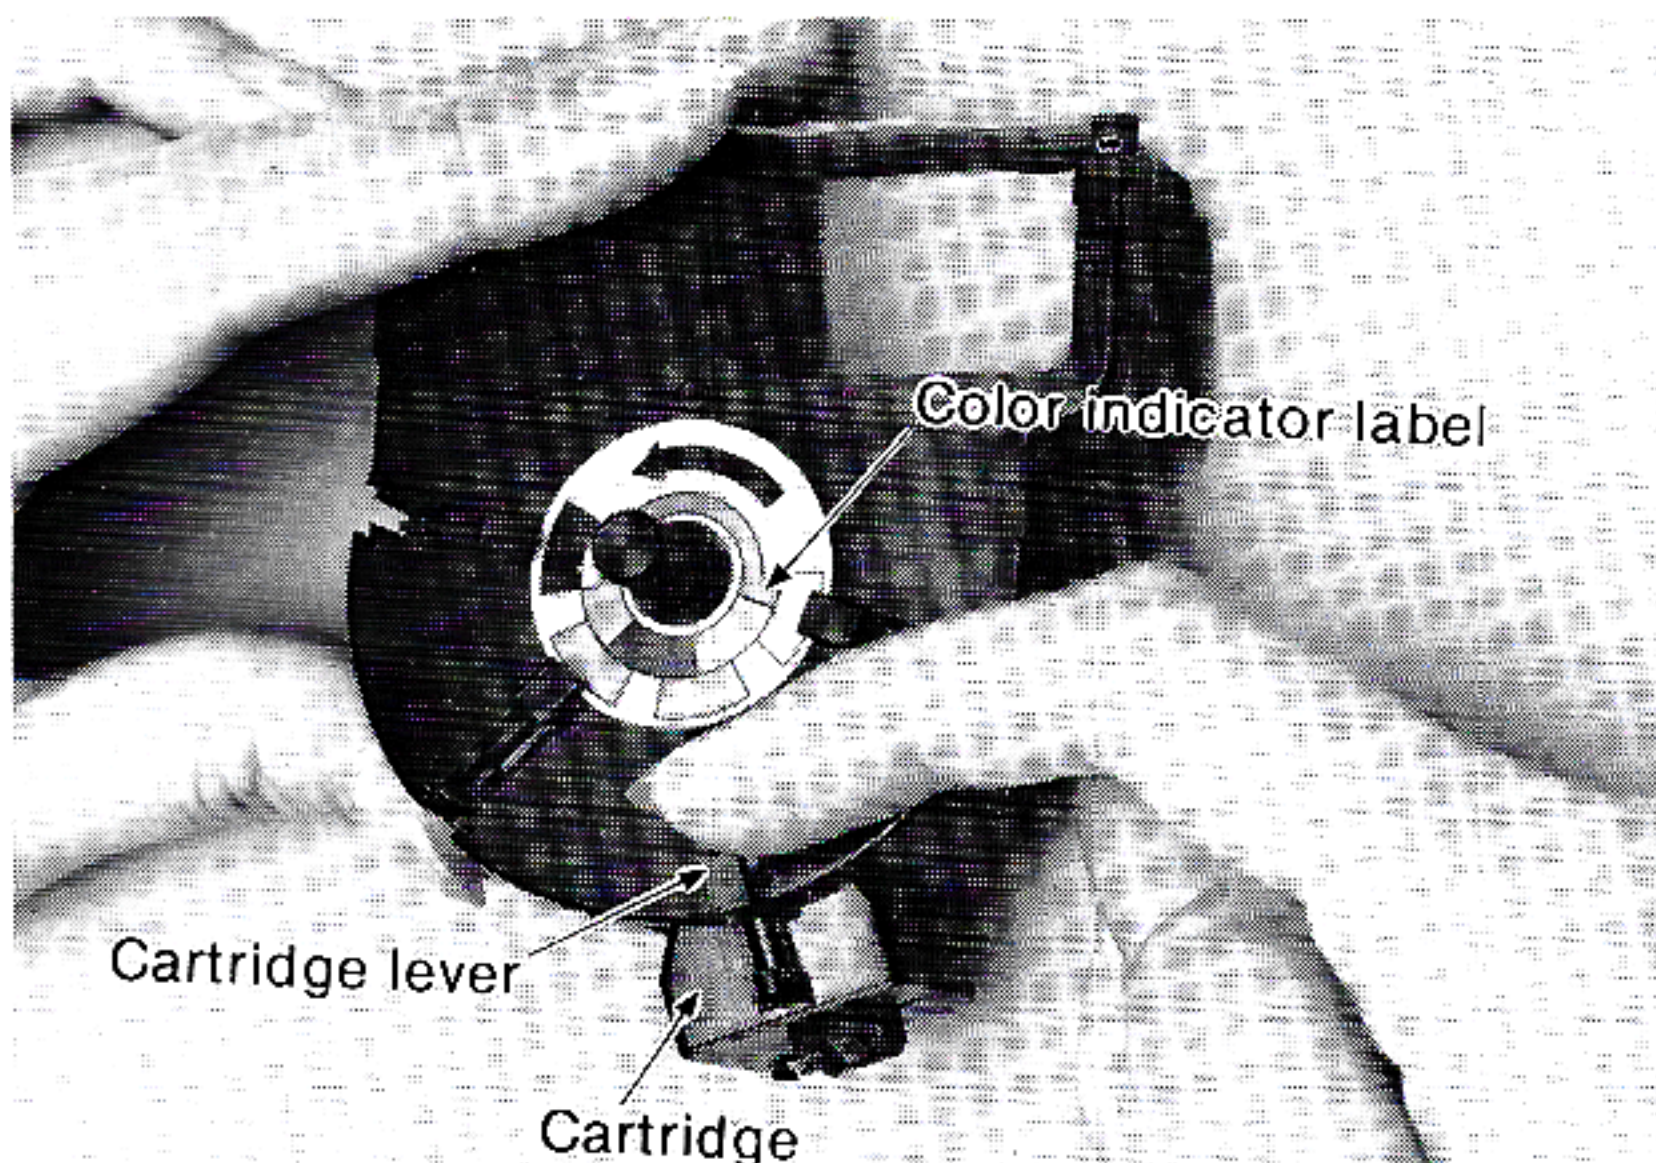

Figure 11
b) Then push outward on the cartridge lever as shown in figure 11. Insert the new ink cartridge. (Be sure that the color of the new ink cartridge matches the color indicator label on the top of the cassette.) Pinch the metal clip gently and set it into place.